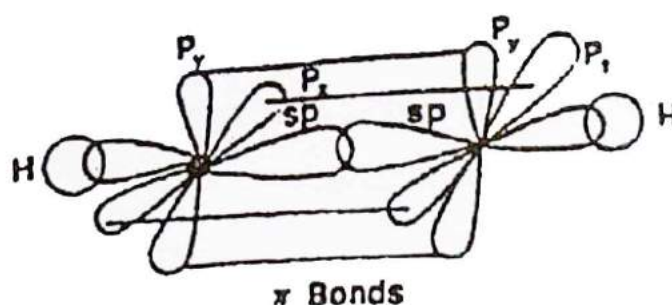

Fig. 7.6 Structure of ethyne
**Structure of Ethyne:—** Each carbon atom in acetylene is attached to one hydrogen atom by a single covalent bond ( $\sigma$ -bond) and to another carbon atom by a triple bond. Thus each carbon uses  $\text{sp}^1$  hybridized orbitals and two unhybridized 2p orbitals ( $p_y$  and  $p_z$ ) to form its pi-bonds ( $\pi$ -bond). It is shown in the figure 7.6